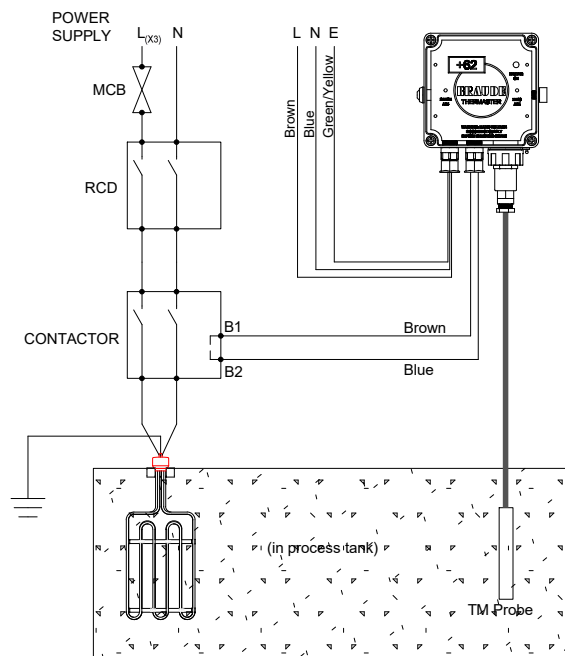

Fig 2 - Wiring diagram for Thermaster connected to Polaris heater
- The output relay of the controller is rated at 5 amps, however, it is recommended that any heater should be connected through a contactor as shown in Figs 2 and 3.
- a) For application where no other controllers (such as level controllers) are connected, connect as in Fig 2.